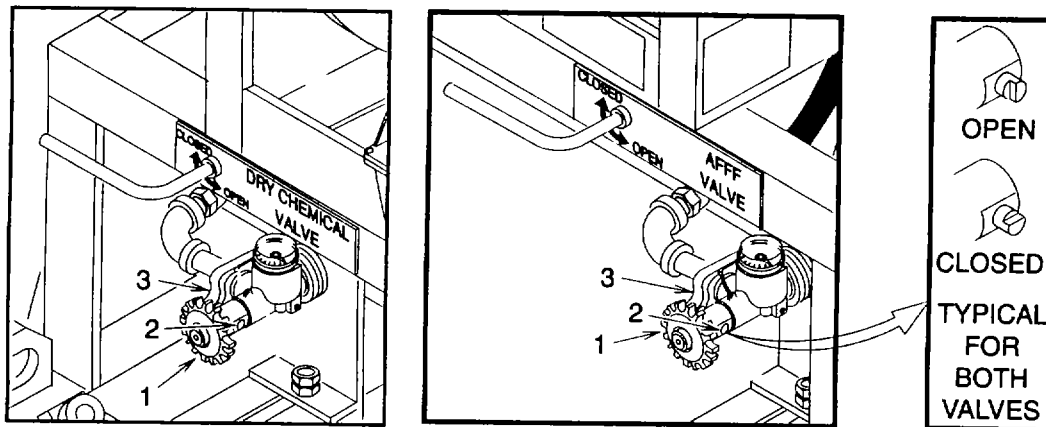

Figure 2-18. Reset Cylinder Valves to Operational Ready Condition
(7) Turn each nitrogen cylinder valve hand wheel (1) (fig. 2-18) fully counterclockwise (open). Lower quick-release lever (2). Rotate cross shaft (3) until flat is horizontal. Turn hand wheel fully clockwise (closed).